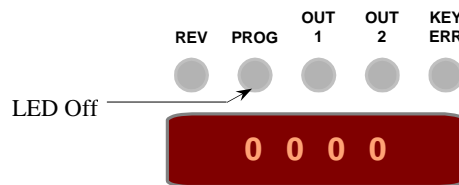

Figure 12: Data for Variable 01
2.	Press the ENTER key to go to the data-entry level; the display will show 1800, the (default value) for variable 01, Max RPM, with the 1's digit position flashing. See Figure 12 for a pictorial of this step.